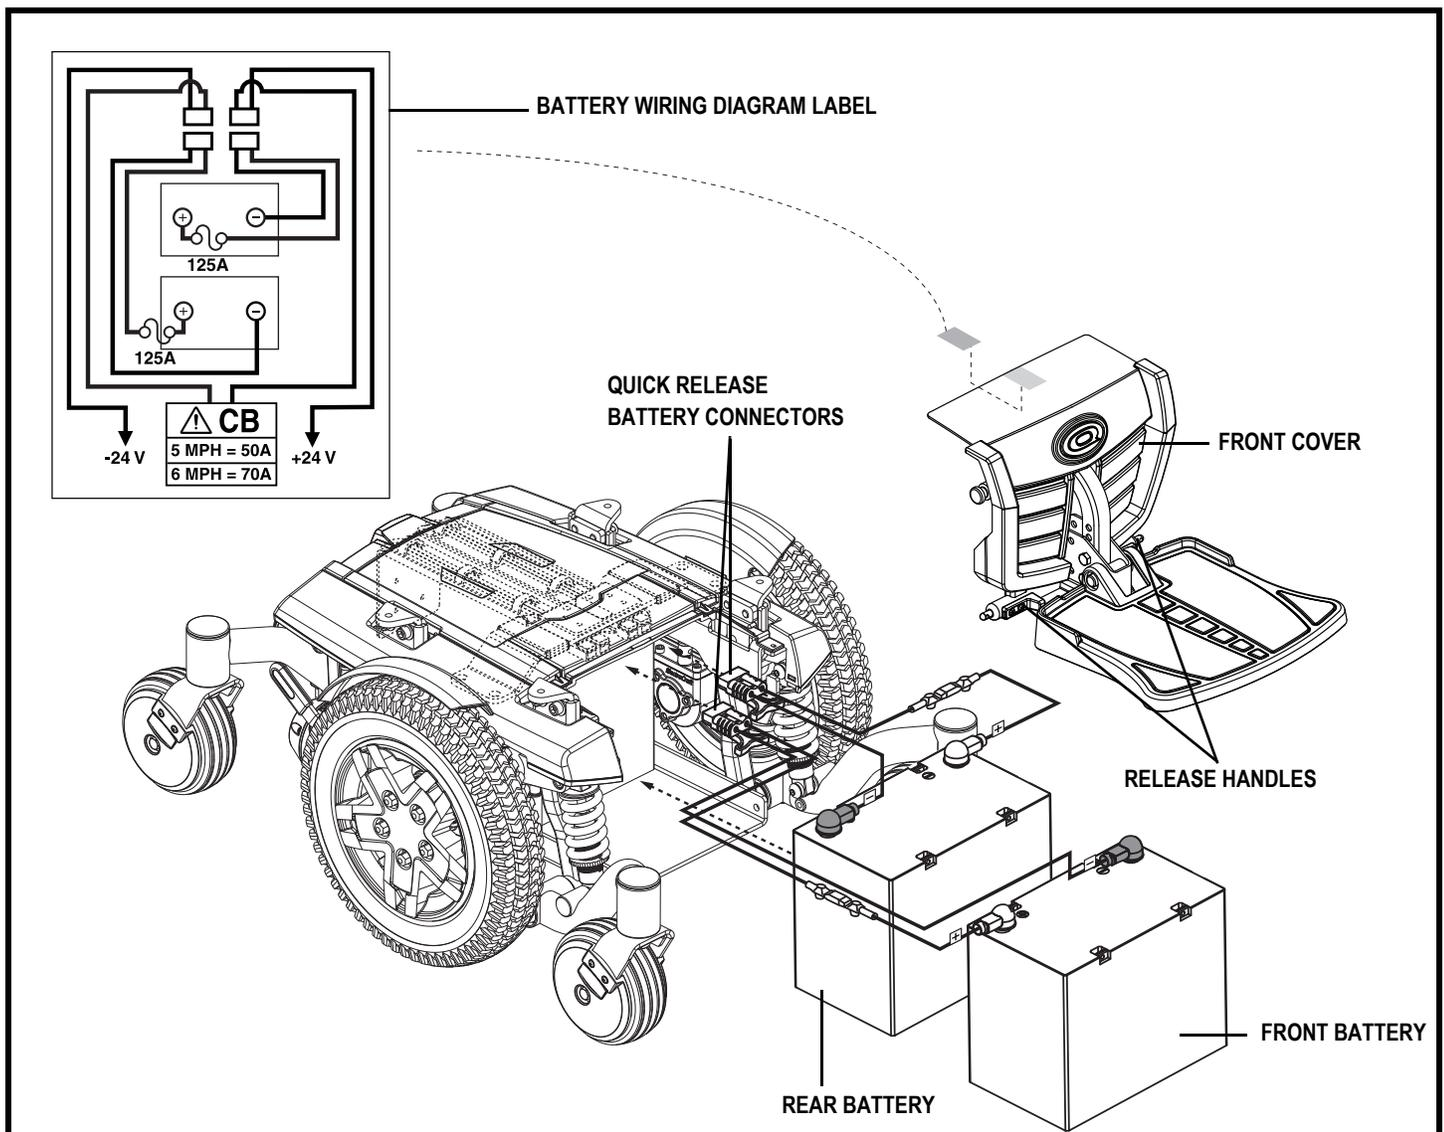

Figure 25. Battery Installation
3. Remove the front cover by squeezing the release handles (see figure 25) and lifting the foot platform bracket up and away from the power base.
7. Connect the battery harness to the new front battery according to the battery wiring diagram. See figure 25.
8. Connect the battery harness to the new rear battery according to the battery wiring diagram. See figure 25.